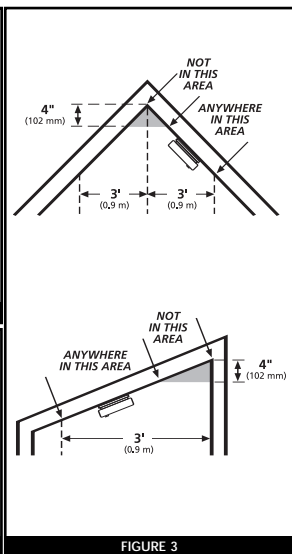

FIGURE 3
- Install Smoke Alarms on sloped, peaked or cathedral ceilings at or within 3ft (0.9m) of the highest point (measured horizontally). NFPA 72 states: "Smoke alarms in rooms with ceiling slopes greater than 1 ft in 8 ft (.3m in 2.4m) horizontally shall be located on the high side of the room." NFPA 72 states: "A row of alarms shall be spaced and located within 3 ft (0.9m) of the peak of the ceiling measured horizontally" (see figure 3).